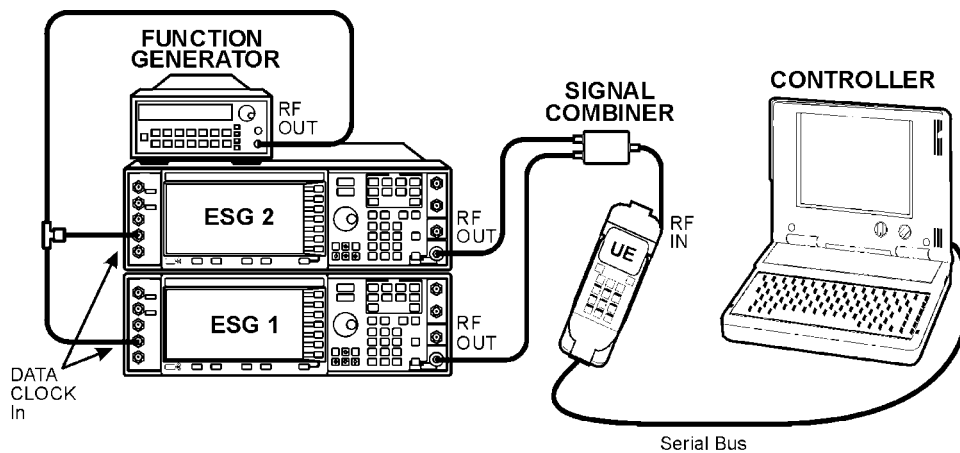

Figure 2. shows a ACS performance test being performed on a UE
By using two ESG's a stimulus can be provided to perform bit error rate analysis of user equipment (UE) designs based on the requirements outlined in the 3GPP specification. Baseband signals are combined to provide the required 3GPP conformance test channels. The amplitude and carrier frequency of each ESG are independent to allow for adjacent channel selectivity, intermodulation response rejection and blocking tests. With the same configuration two phones could be tested simultaneously for increased throughput. The example in Figure 2 shows an ACS performance test being performed on a UE.